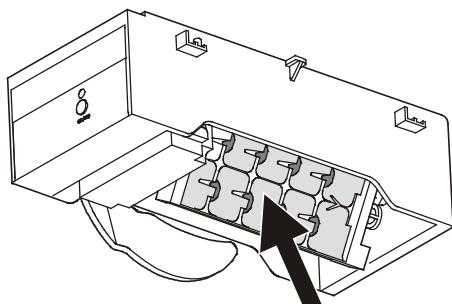

Figure 22
- After this the Ice Maker tray (**Figure 22**) must be emptied. Refer to chapter "Ice Maker at vacations".
In case of longer vacations, the ice maker tray (arrow in **Figure 22**) should be emptied.
When the interior temperature appears in the display, the tray is in the down position (**Figure 22**) and the ice maker is turned off automatically.